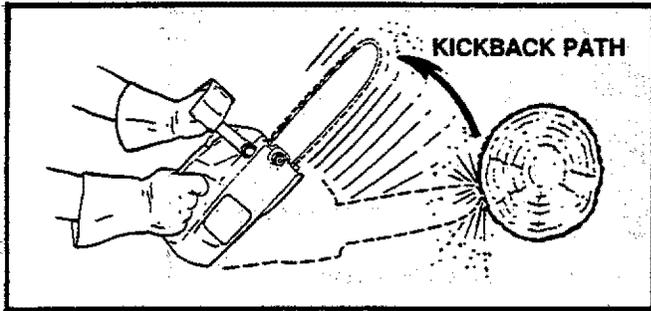

Figure 15
- Never let the moving chain contact any object at the tip of the guide bar. Figure 15